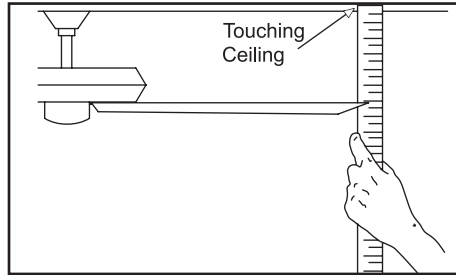

Figure 17
2. Most fan wobble problems are caused when blade levels are unequal. Check this level by selecting a point on the ceiling above the tip of one of the blades. Measure from a point on the center of each blade to the point on the ceiling. Measure this distance as shown in Figure 17. Rotate the fan until the next blade is positioned for measurement. Repeat for each blade. Measurements deviation should be within  $1/8''$ . Run the fan for 10 minutes.